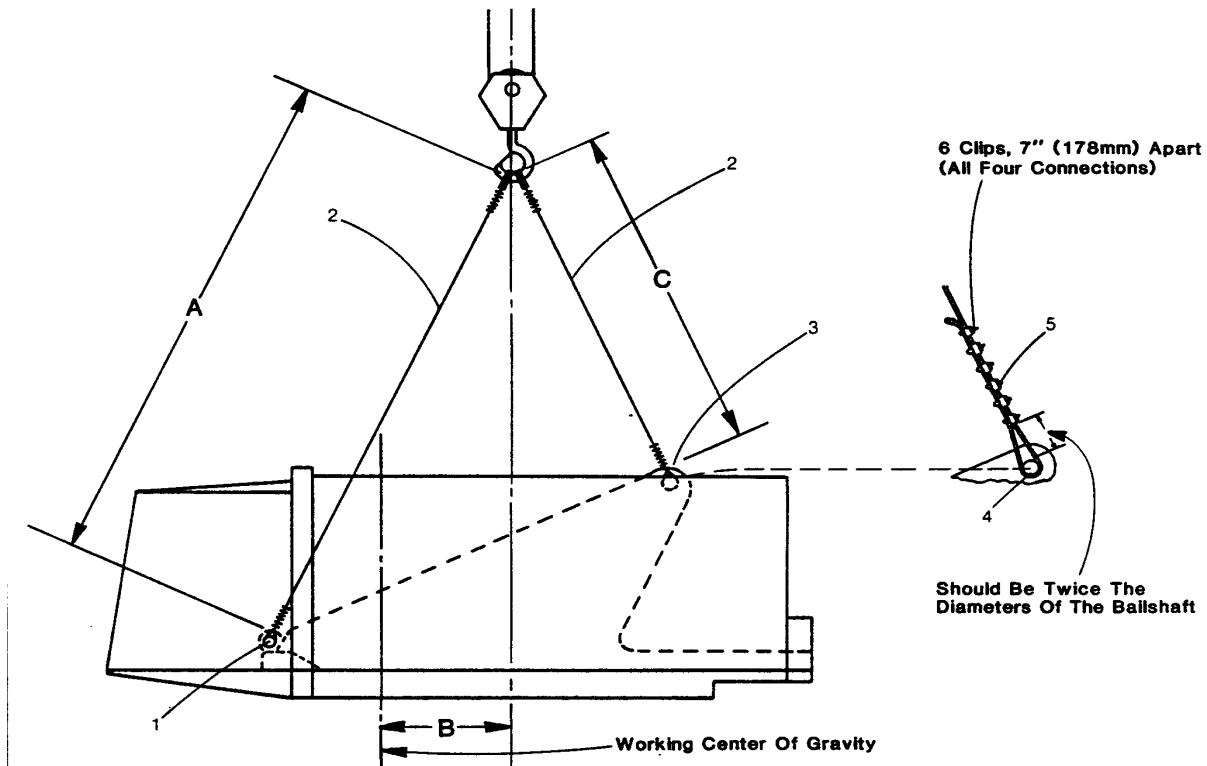

Fig. 1. Sling Assembly
- (b) Attach slings to upper (see Fig. 1). Connect one leg to each boom foot pin, and one leg to each end of the extended boom hoist bail shaft (where the boom backstops mount). Install keeper pins or cotter pins in the boom foot pins to prevent their working out. Install a large washer, or a plate with a flame cut hole in the center over the bail shaft to prevent sling slipping off. Install a cotter pin or capscrew and locknut in the hole at each end of the bail shaft to retain the washer or plate. The sling must have four legs, and be strong enough to lift the upper. If using wire rope, use a minimum 1" (25.4mm) diameter rope with a minimum breaking strength of at least 51 tons (46,266 kg). FMC type N is recommended. Use new rope straight off the reel for making up the sling. Never use used, scrapped, or damaged rope for a sling, as an accident may occur. Refer to Fig. 1 for more information. See section 10 in the Operators Manual for information on installation of wire rope clips.